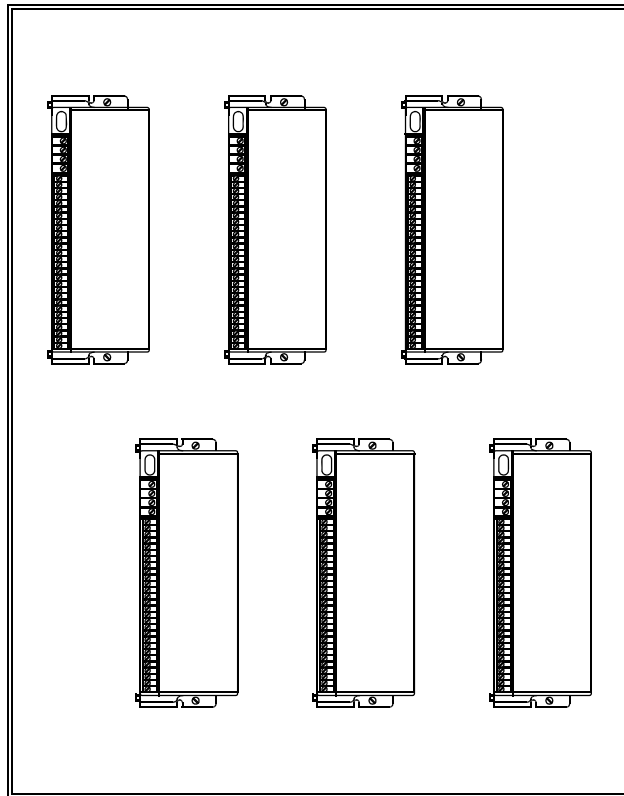

Figure 95. Staggered Configuration of Blocks in a Cabinet
- At times, it is advantageous to stagger blocks, to allow hot air generated by lower blocks to pass through the upper blocks. See Figure 95.